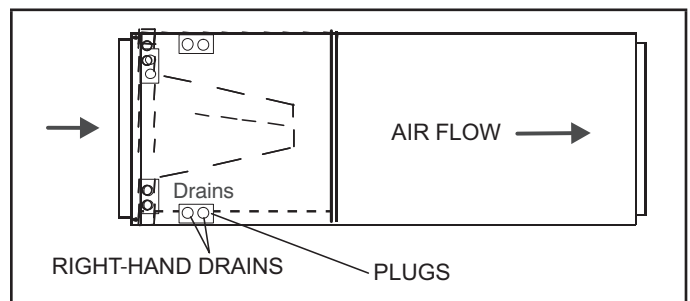

FIGURE 9. Right-Hand Discharge Configuration
- 4 - The horizontal configuration is shown in figure 9.